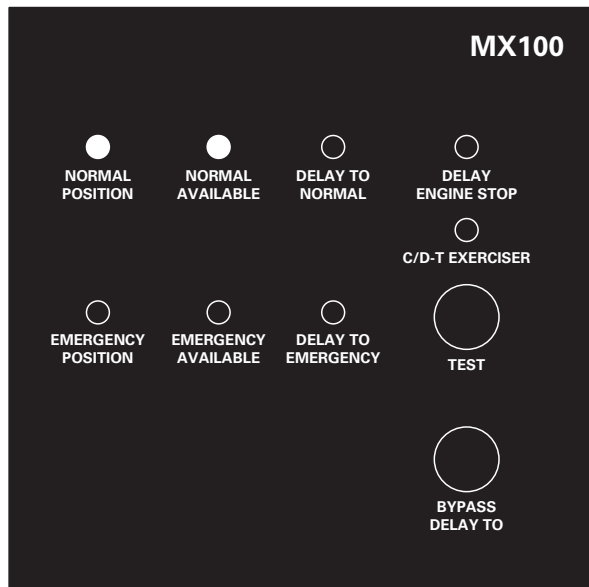

Figure 4 – Standard Transition Annunciation LEDs and Test Switch
After all options and accessories are checked and verified, follow these steps to set up the ATS. Refer to MX100 display *Figure 4*. The annunciation LEDs illuminate to indicate (1) source availability, (2) ATS position, and (3) MX100 control function (timing).
For this test description, please refer to MX100 standard transition display *Figure 4*.